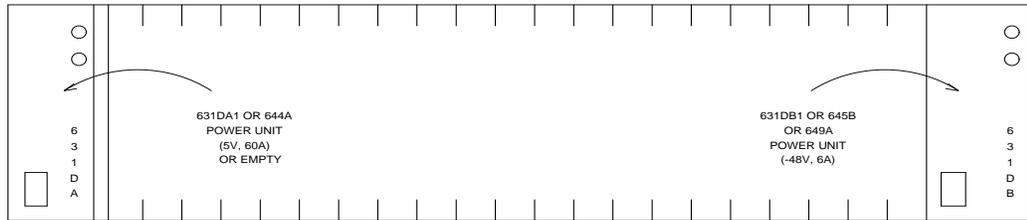

Figure 4-15. Locations of Power Units
14. Install the new power units into the “B” carrier. There are different types of power units available. They are the 631DA1 and 631DB1 (for AC power), the 644A and 645B (for DC power), and the 649A (for DC power). Do not interchange the units. The 631DA1 or 644A is installed on the left side, while the 631DB1 or 645B and the 649A are installed on the right side (See Figure 4-15).